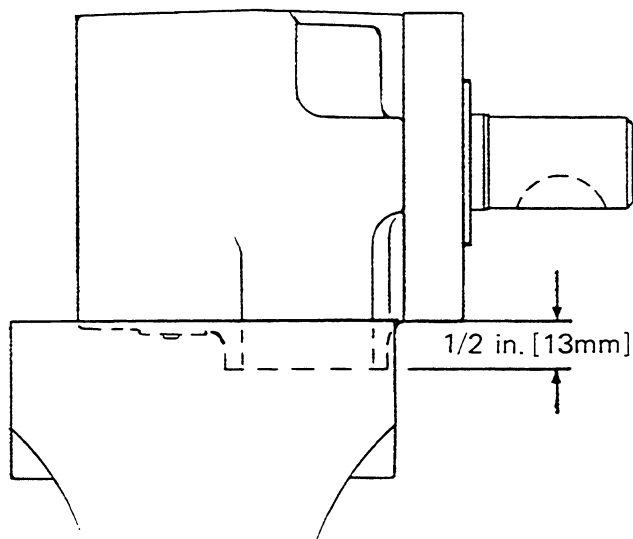

Figure 14
**26** After removing bullet, clamp motor in vise as shown in Figure 14. Make sure shaft cannot fall out. Install **dry** screws and alternately torque them immediately to 250 lb-in [28 Nm]. If you use primer, allow to cure for **10 to 15 minutes**. Without primer, allow 6 hours curing time before subjecting motor to high torque reversals. On all other applications, you can run motor immediately.